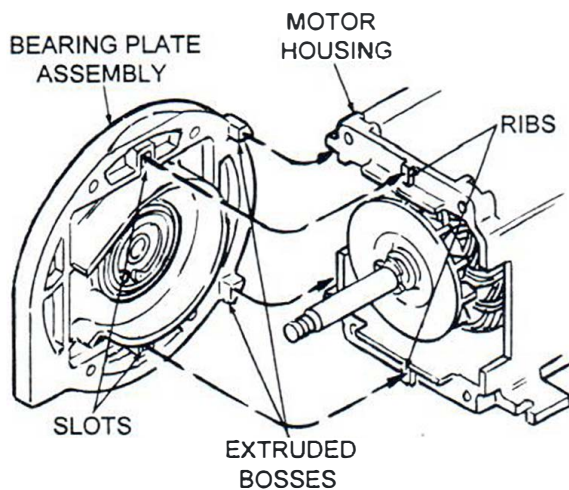

Figure 29 Aligning Bosses On Motor Housing and Slots in Bearing Plate
- G. See Figure 29. Install bearing plate assembly.